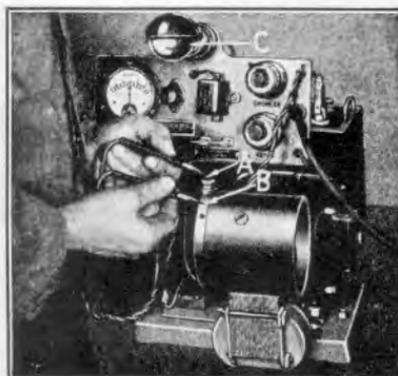

Fig. 495
- 969 To make sure that none of the metal parts on the windings are coming in contact with pole pieces or yoke, the field coil assembly should be tested for grounds. This is done by placing one test point on motor terminal (See "A" Fig. 495), and the other on yoke "B". If test lamp "C" lights there is a ground in the coils. If lamp does not light, field coils are O. K.